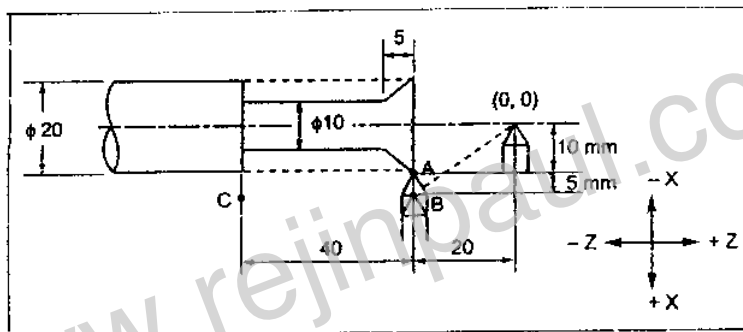

Fig. 1
- (b) (i) Write a part program for that part shown in Fig. 1. (8)